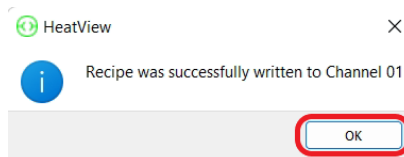

Figure 82: Recipe Editor – Recipe Written to Channel Notification
3. On the pop-up window confirming that your recipe was successfully written to the channel, click the “OK” button highlighted in Figure 82 below to dismiss the pop-up and complete the process.